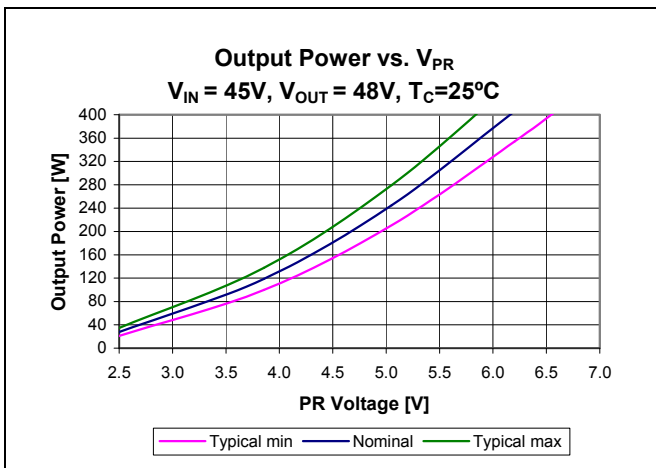

Figure 21 – Output Power vs.  $V_{PR}$ ;  $V_{IN} = 45\text{ V}$ ,  $V_{OUT} = 48\text{ V}$ ,  $T_{CASE} = 25^{\circ}\text{C}$
**Control node (PR)** is the input to the control node which determines the powertrain timing and ultimately the module output power (Figure 21). An internal 0.5mA current sink is always active. The bi-directional buffer between PR and the control node has two states. In normal operation, PR will be above the 0.79V switching threshold, and will drive the control node through the buffer. An internal 7.4V clamp determines the maximum output power that can be requested of the modulator.